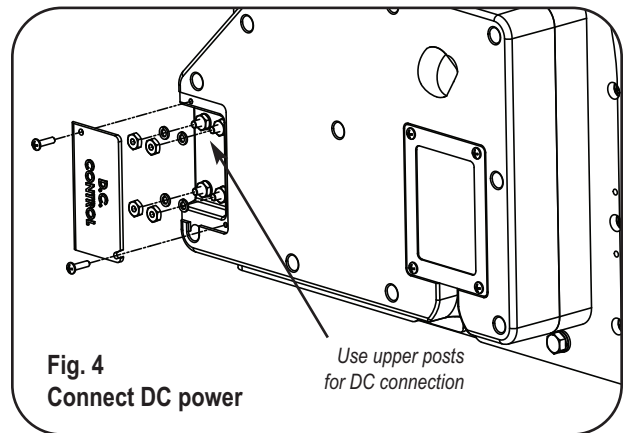

Fig. 4
STEP 4. CONNECT DC POWER TO UNIT (Fig. 4)